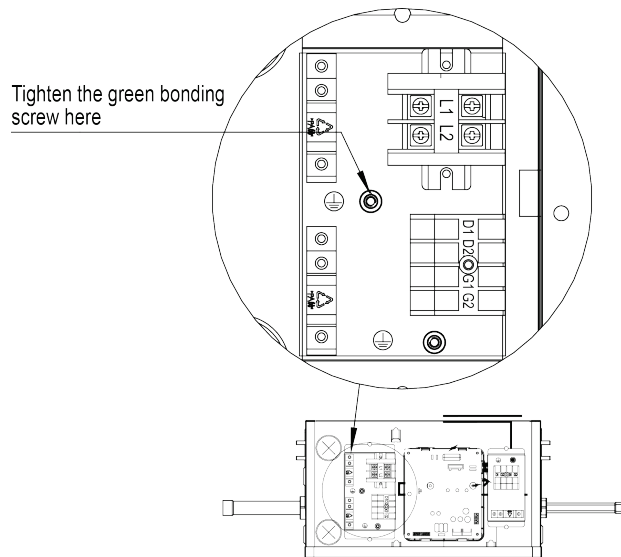

Fig.5.4
- 3) Connect power cord to “L1, L2” terminal and earthing screw. Please use the green bonding screw to connect the earthing cord. The location is showing in the Fig.5.4